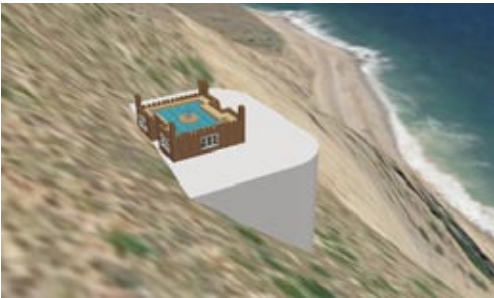

Figure 13-39
9. To bring the castle model into Google Earth, click the Place Model icon or choose Tools→Google Earth→Place Model. The castle and its support are sitting pretty on the cliff in Google Earth (Figure 13-39).